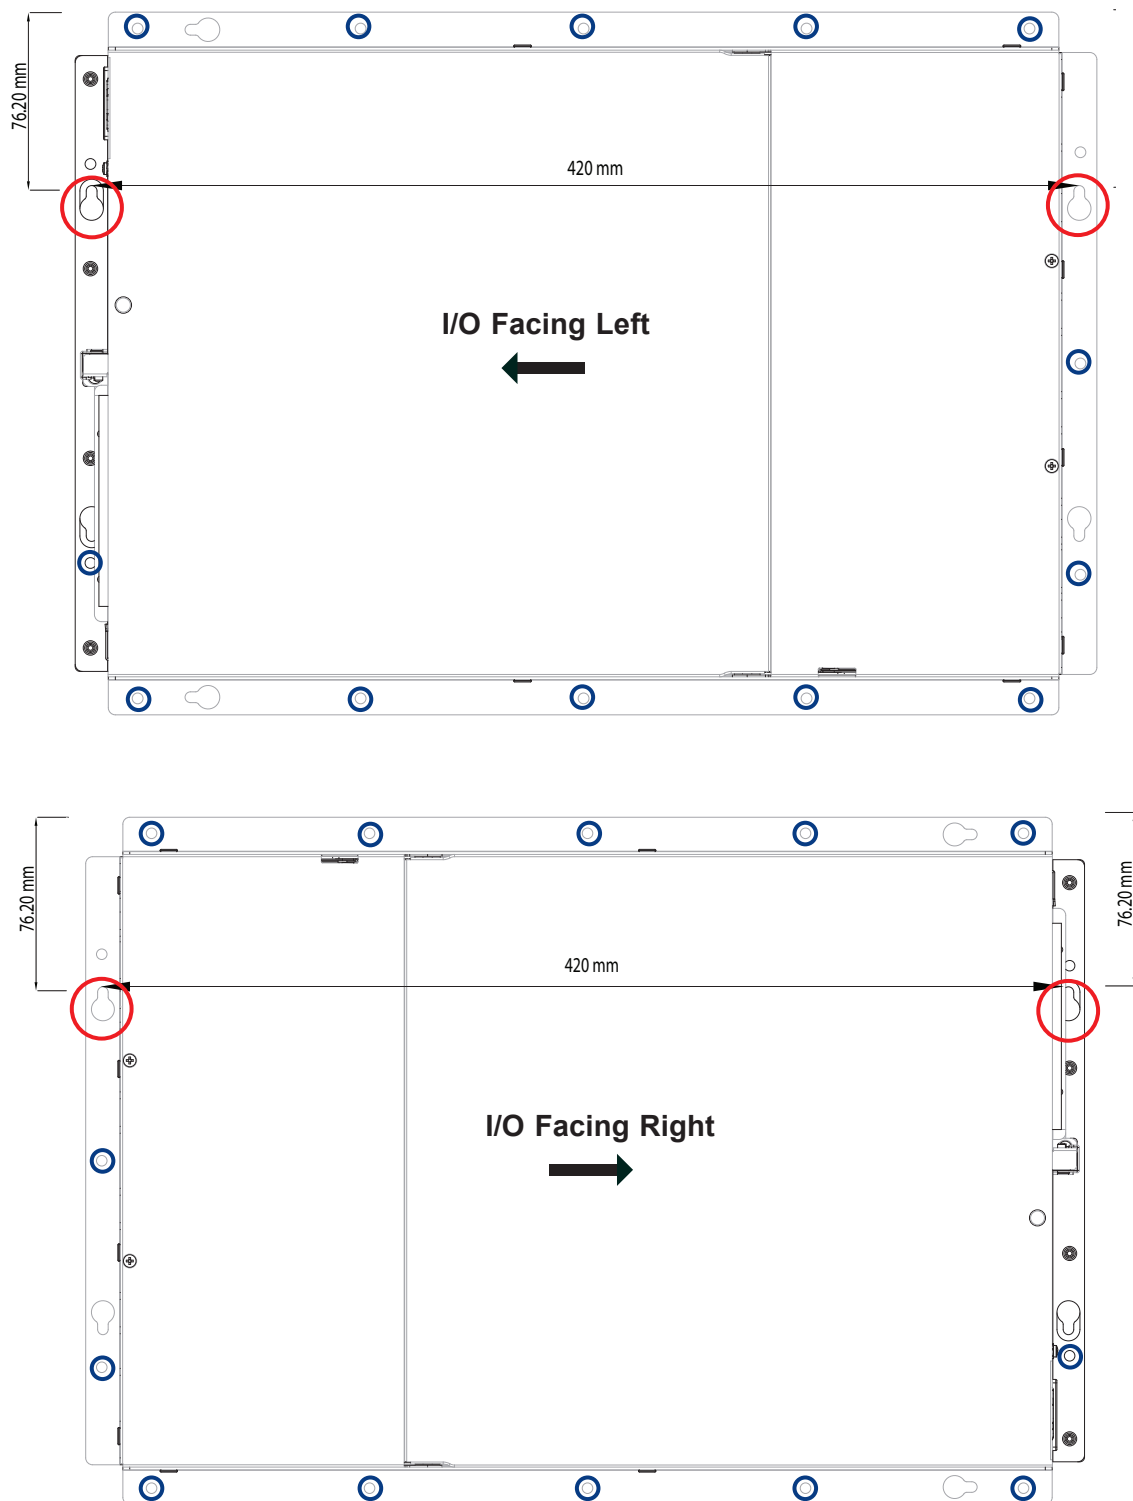

Figure 2-17. Possible Mounting Orientations
3. Mark two keyhole spots on the surface where the server will be mounted. The two keyholes for each orientation are circled in red. See Figure 2-17.
6. Install screws or nails in all the holes circled in blue. See Figure 2-17.